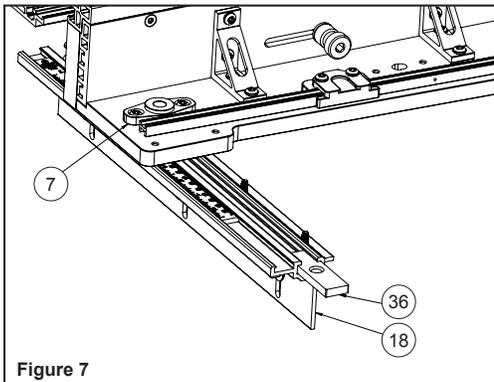

Figure 7
- a. Slide the $\frac{3}{4}$ " x 2- $\frac{1}{2}$ " rectangular T-nut (part # 36) for the extension knob into the T-slot. **See Figure 7.** Slide the clamping T-nut into the T-slot until the threaded hole aligns with the hole in the knob mount (part #7). Repeat this step for the other side of the fence.